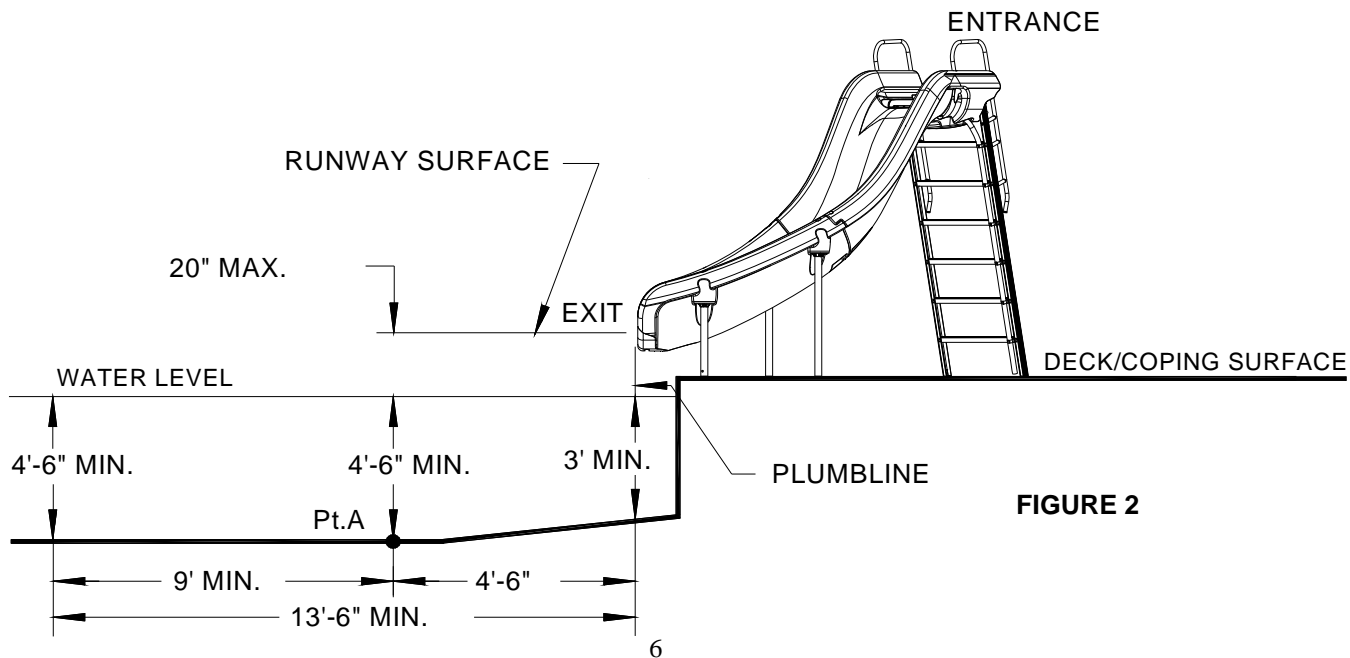

FIGURE 2
5. Observe the position of the exit of the slide as shown in Figures 2, 3 and 5 on pages 6 and 7.
1. The critical dimensions for placement of the **Rogue2** slide are as shown in Figures 2 and 3.
- A. The slide exit runway surface shall not exceed twenty inches (20") above the water surface as shown in Figure 2.
- C. The minimum depth of water below the exit lip of the slide shall be three feet (3') and increases to four feet six inches (4'-6") at Pt. A, which is a distance of four feet six inches (4'-6") from the exit lip of the slide as shown in Figure 2.
- D. A minimum depth of four feet six inches (4'-6") shall be maintained at a distance of nine feet (9') along the extended centerline of the slide from Pt. A. as shown in Figure 2.